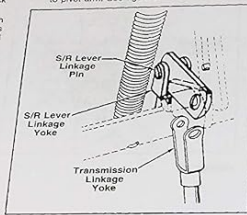

FIGURE 2.
5. Remove cotter pin and headed pin that retains S/R lever linkage to pivot arm. See figure 2.